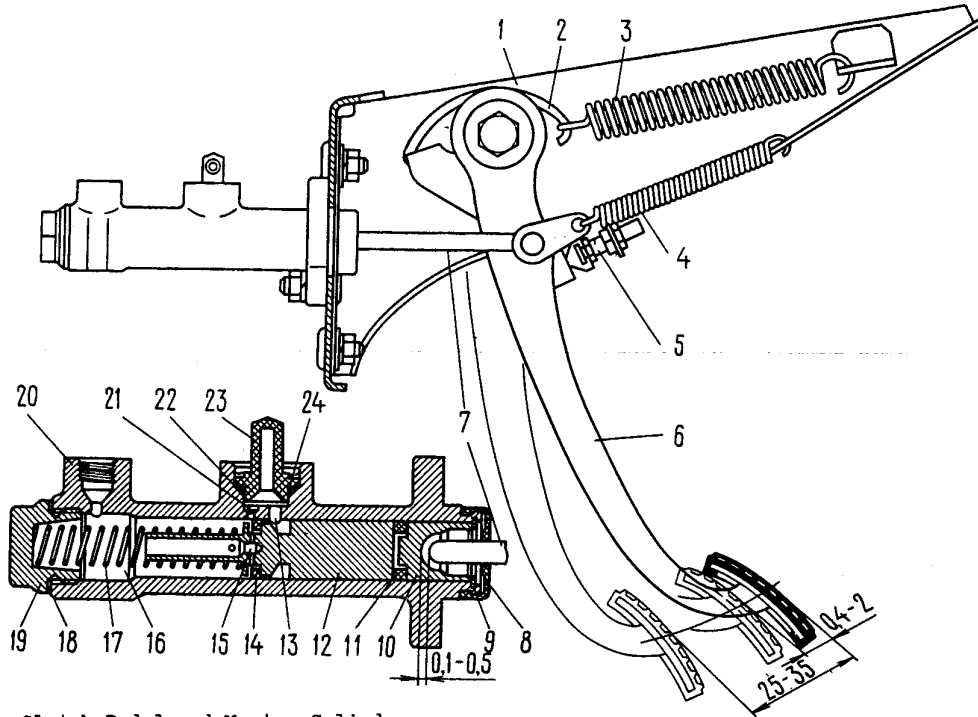

Fig. 3-2. Clutch Pedal and Master Cylinder:
- set a clearance of 0.1 - 0.5 mm between the pushrod and piston of the master cylinder (Fig. 3-2). This clearance, required for a complete release of the clutch, is adjusted by clutch pedal stop 5. The clearance can be determined by free travel of the pedal equal to 0.4 - 2 mm;